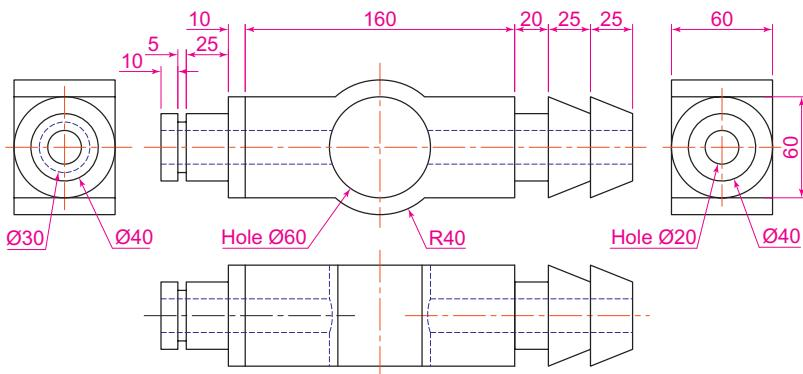

Fig. 18.17 Second example – 3D models – dimensions
1. **Top**. Construct polyline outlines for the body extrusion and the solids of revolution for the two end parts using the dimensions in Fig. 18.17. Extrude the body and subtract its hole and using the **Revolve** tool form the two end solids of revolution.